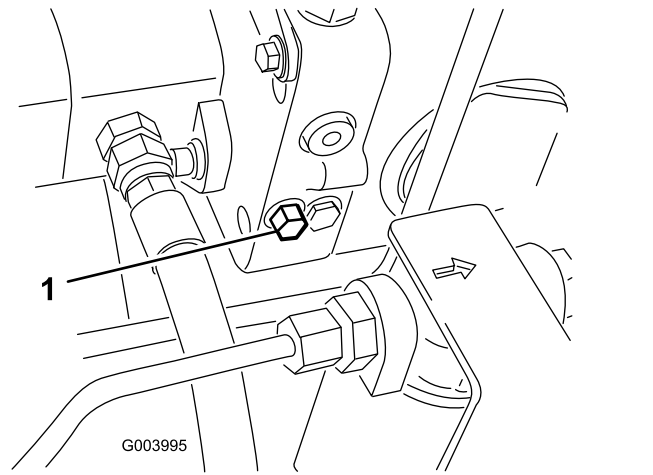

Figure 25
1. Locate the bypass valve on the left side of the hydrostat (Figure 25).